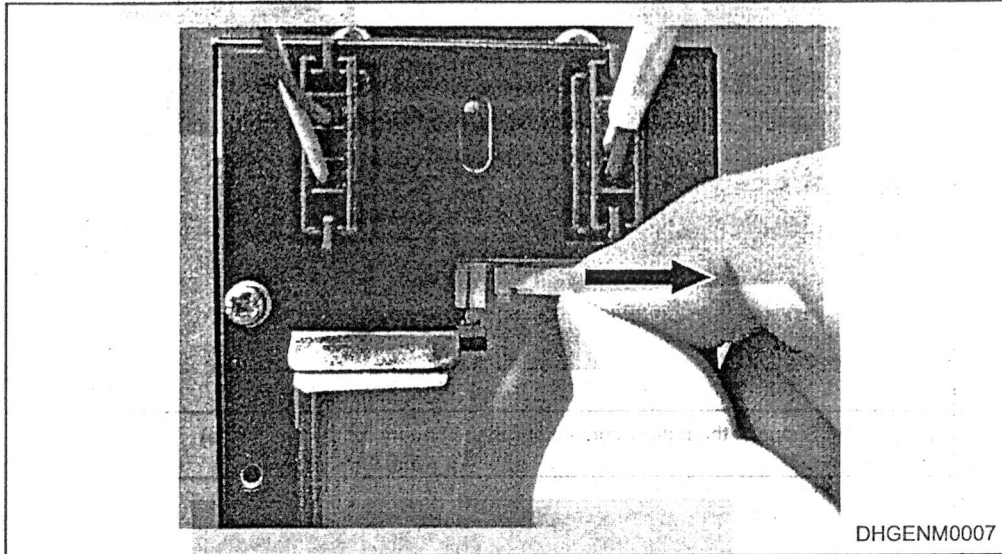

Fig. 3-7 Detachment of the connector
- Remove the batteries, holding the connector with hand. Detach the connector by pulling it in the direction of the arrow indicated in Fig. 3-7. If your fingers cannot be put in the battery compartment, hold the battery cable on the side closer to the connector and pull the connector in the direction of the arrow.